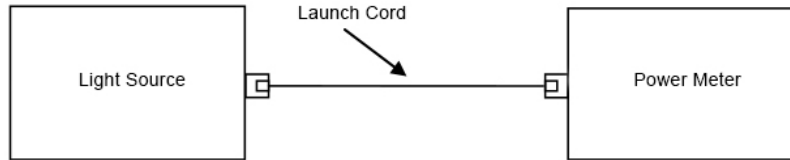

Figure 9. Set the reference using the one-cord
- a. Set a reference between the light source and power meter using the launch cord (see Figure 9).